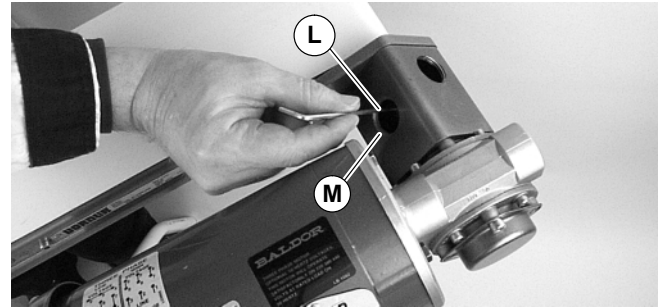

Figure 11
6b. Jog motor and rotate coupling to align set screw (L of Figure 11) with access hole (M). Tighten to 32 in-lb (3.7 Nm). Repeat for second set screw.
- 2.** Jog motor and rotate coupling to align set screw (L of Figure 11) with access hole (M). Loosen set screw. Repeat for second set screw.